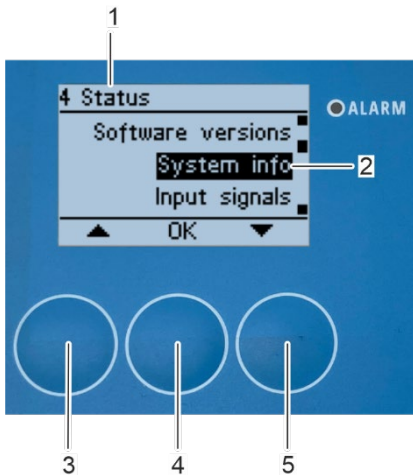

Fig. 175: Open submenu "System info"
3. Press [OK] (Fig. 174/5) to return to the "4 Status" submenu (Fig. 175/1).
⇒ The "4 Status" submenu appears on the display (Fig. 175/1).
1. Select the "System info" submenu (Fig. 175/2) with the arrow keys [up] (Fig. 175/3) and [down] (Fig. 175/5).
2. Confirm the selection with [OK] (Fig. 175/4).